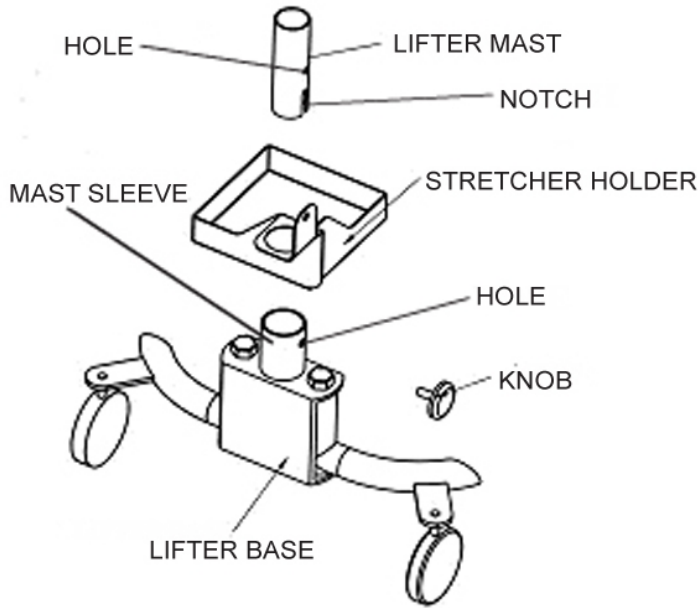

Figure 3
2. Place the stretcher holder onto the lifter base (see Figure 3).
3. Remove black plastic protective caps from lifter mast (see Figure 3).
5. The notch on the end of the lifter mast fits over the round tube at the bottom of the mast sleeve (see Figure 3).
6. Position and lock the lifter mast into the mast sleeve. When assembled correctly, the lifter mast will not be able to rotate (see Figure 3).
7. Check that the lifter mast is locked into position, and that the hole in the lifter mast is aligned with the threaded hole in the mast sleeve (see Figure 3).
8. Screw the knob into the threaded hole in the mast sleeve. Tighten to lock the lifter mast to the lifter base (see Figure 3).